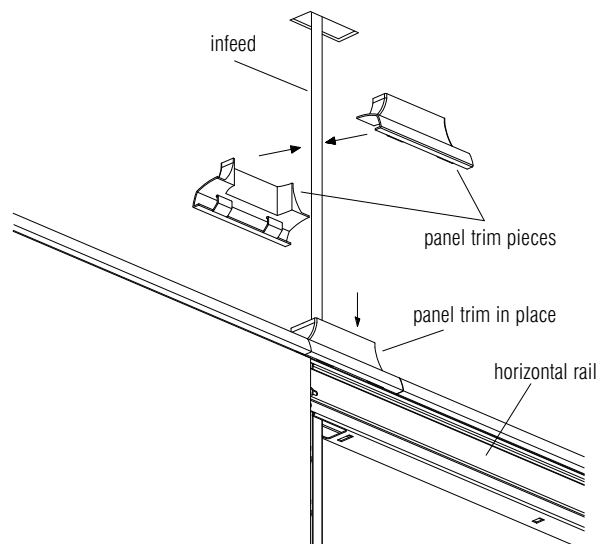

Figure 54
3. Position the two panel trim top cap pieces around the infeed and any data cabling above the panel and snap them together. Then lower the combined part onto the panel; the trim should rest on the horizontal rail. **Figure 54.**